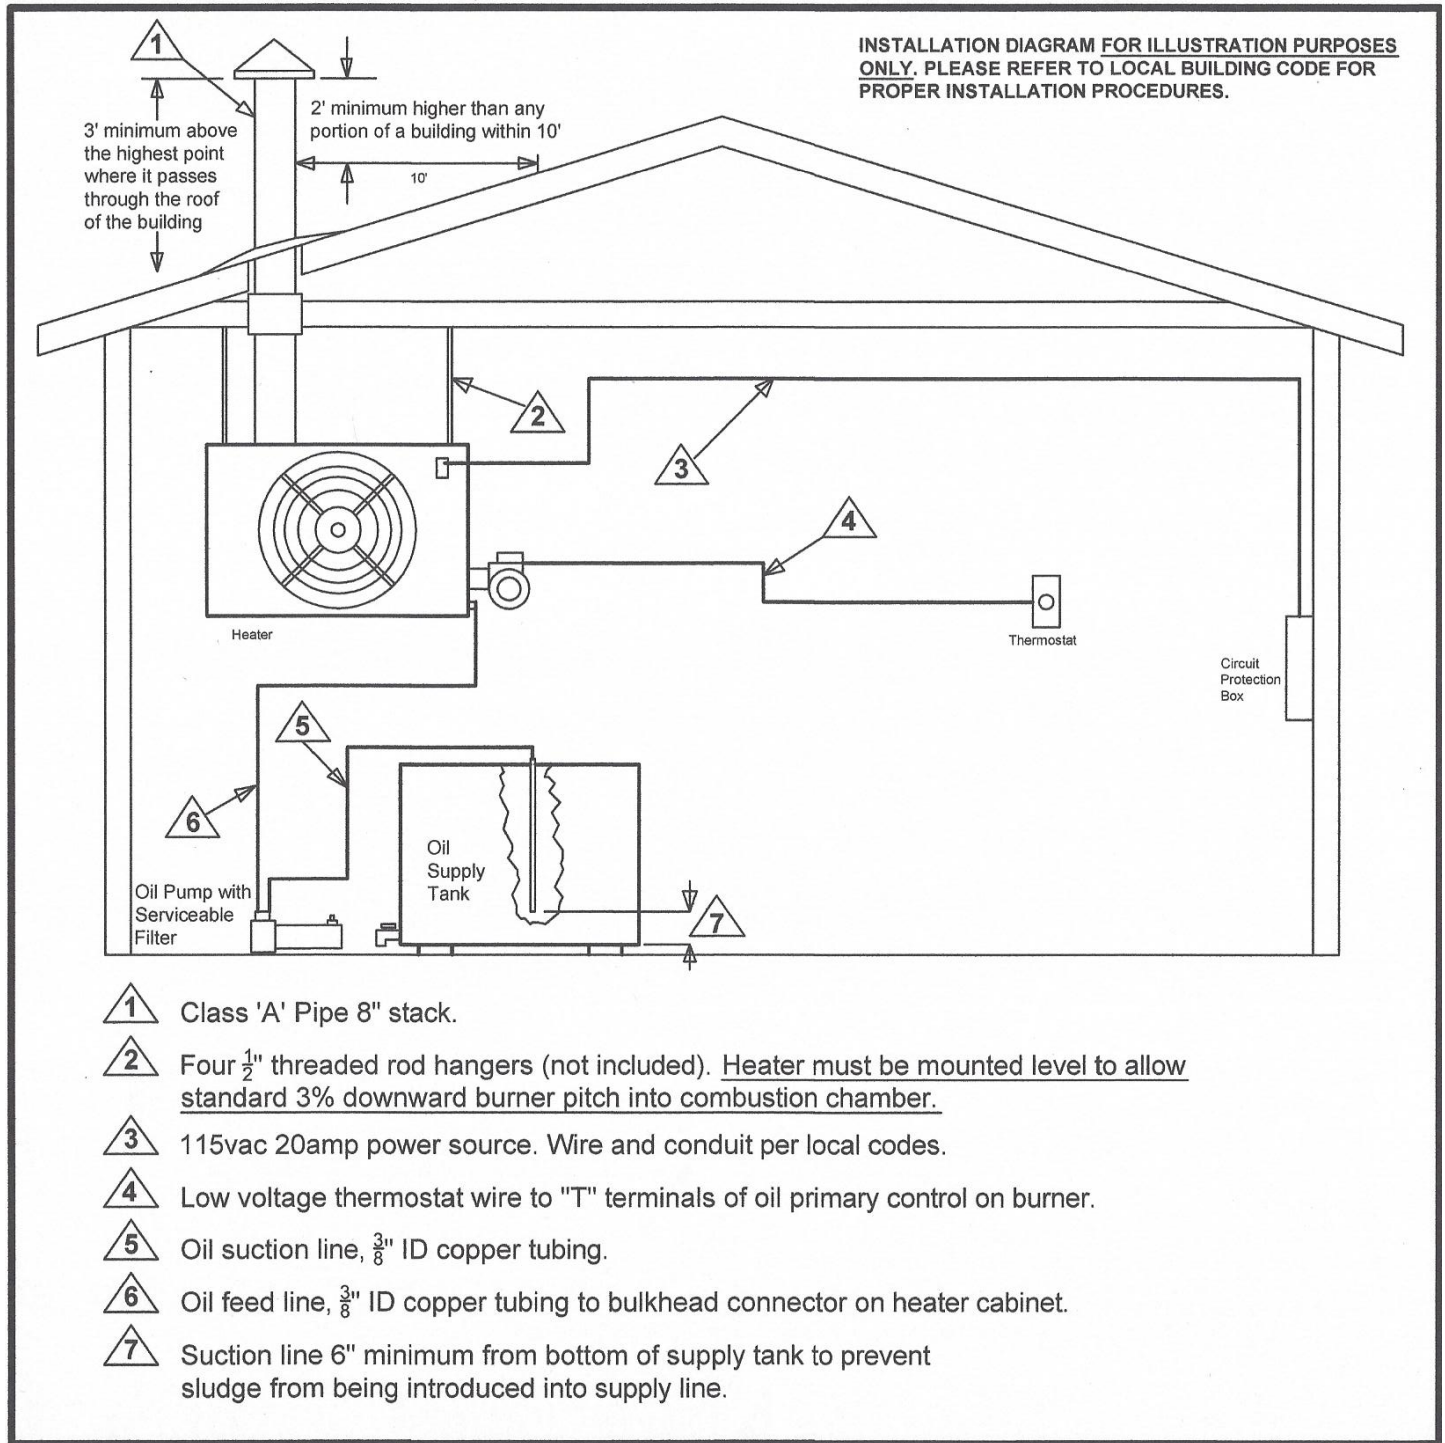

Figure 1 - Installation Diagram
4. **The fuel supply pump included with heater is to be mounted at tank level or below** (figure 1). This pump turns slowly requiring a number of minutes to accomplish purging ALL air, if bubbles, skips, even slight pulsations in the oil flow from pumps bleeder port is unacceptable and must be removed assuring proper oil flow to heater. Otherwise, the flame sensor will not see enough flame and heater will lockout. **NOTE: PUMP ASSEMBLY MUST BE MOUNTED HORIZONTAL.**
5. Connect 3/8" oil supply line from the supply tank through the filter (figure 1) to the pump inlet located same side as bleeder port (figure 6). Continue oil supply line from pump outlet to bulk head fitting secured to cabinet at left side of burner assembly (bulk head fitting has fuel flex hose connecting it to burner).